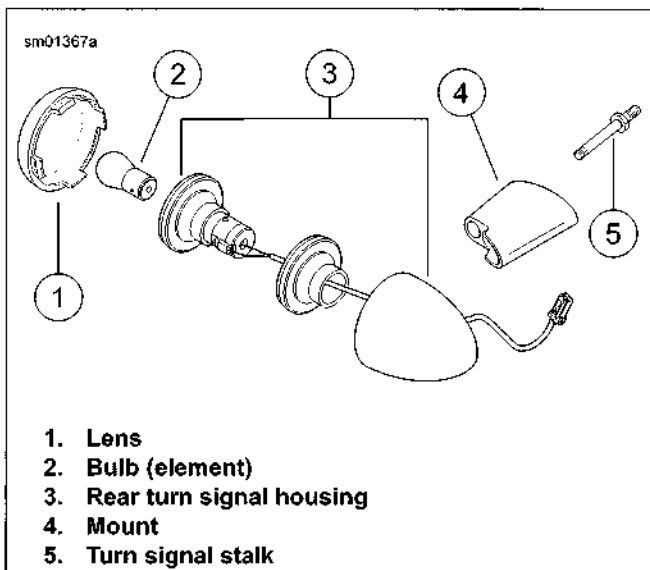

Figure 6-71. Rear Turn Signal Components: XL 883L/R
3. See Figure 6-71. Install each turn signal housing (3) and mount (4) to rear fender strut cover with turn signal stalk (5). Tighten to 96-156 **in-lbs** (10.9-17.6 Nm).